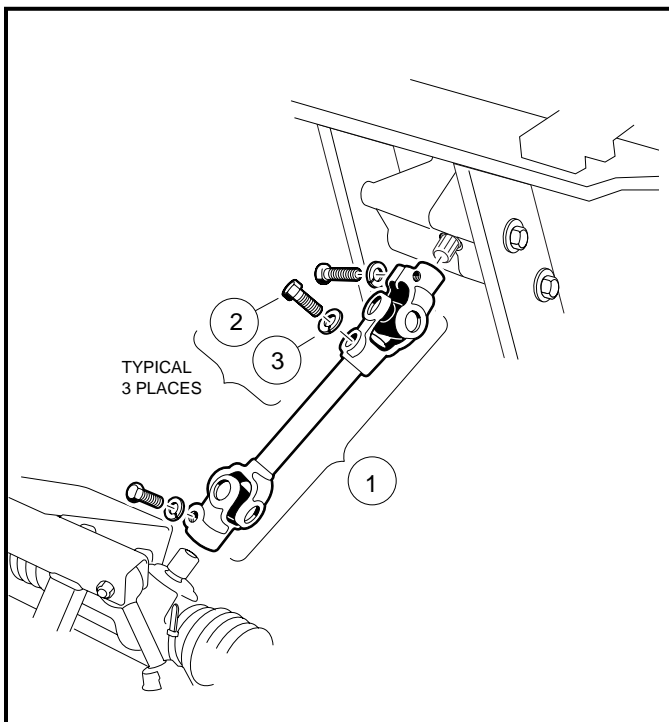

Figure 14-13 Compound Steering Joint
3. Remove the steering joint assembly (**Figure 14-13, Page 14-16**).
- 6.1. Position steering joint assembly (1) on vehicle as shown. Install three lock washers and three bolts and tighten to 15 ft-lb (20.3 N-m) (**Figure 14-13, Page 14-16**).